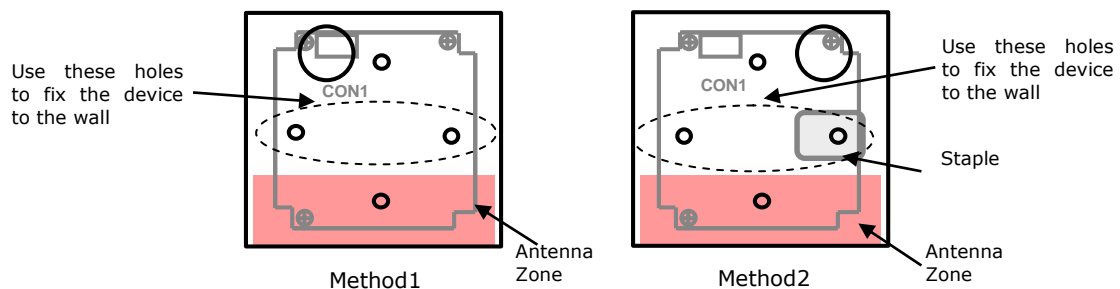
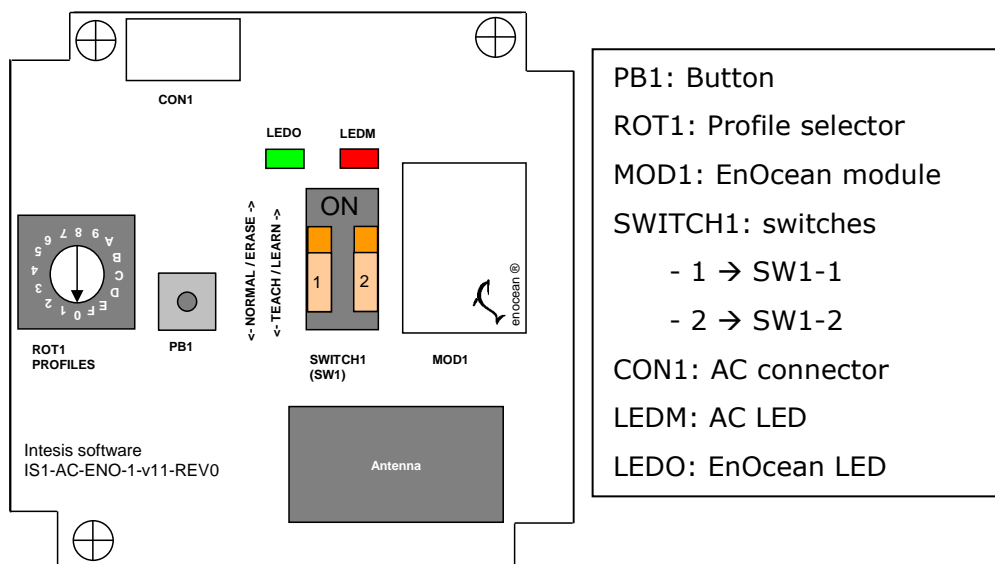

Figure 2.2 Connection methods
Figure 3.1 Device diagram
To connect the device to the AC, the recommended methods are the ones in Figure 2.2
- Method1: The lead hole is place above CON1 (Figure 2.2 or Figure 3.1)
Important: The cable should not be placed on top or the antenna zone (area marked in Figure 2.2) as the performance of the device might be affected. For this same reason never use a metallic screw in the subjection hole on top of this antenna zone.
The DK-AC-ENO-1 / 1C (Figure 3.1) has two switches, a button and a profile selector to execute the Learning and Teach-in procedures from the EnOcean technology (explained in Table 3.1 and the following sections)
To **execute** the **Learning** procedure the next steps need to be followed. References to device components refer to Figure 3.1:
Table 3.4 Signals linked to ROT1 (Figure 3.1)
To delete one or all the devices linked in one reception profile (Table 3.2) the device needs to be in ERASING mode. To do so follow the following lines (the references to device components are specified in Figure 3.1):
A device can break down or be lost, and therefore the above mentioned delete procedure would not be possible to be executed. For that reason all the devices in one profile can be deleted. To do so follow the instructions (the references to device components are specified in Figure 3.1):